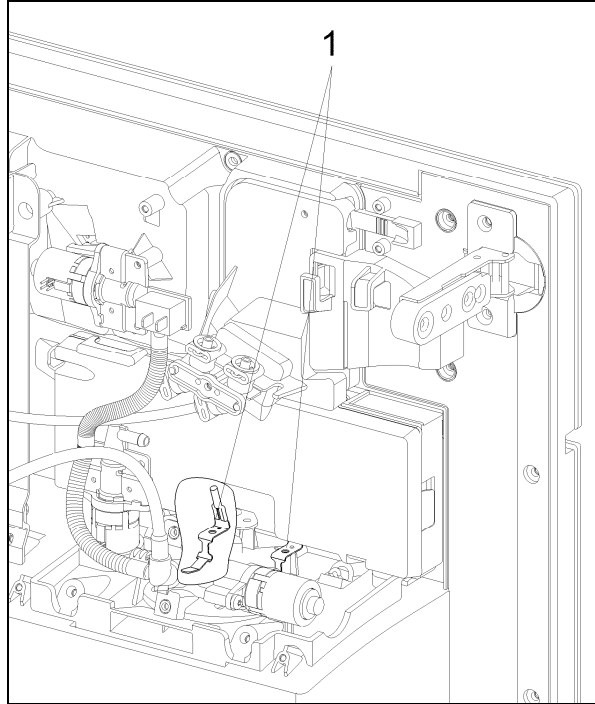

Figure 001-58: Sensor Blades
5. Remove the T10 screw securing each sensor blade (see Figure 001-58, Item 1).